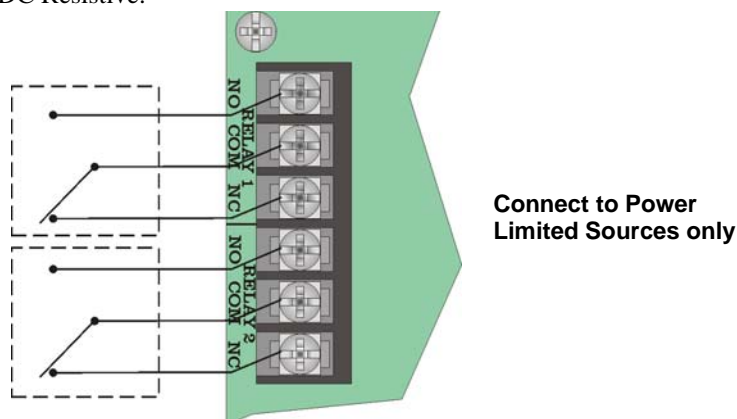

Figure 4-32 Location of Conventional Relay Circuits
1. Wire Relay 1 and/or Relay 2 as needed for your application. See Figure 4-32 for the location of the relay terminals.